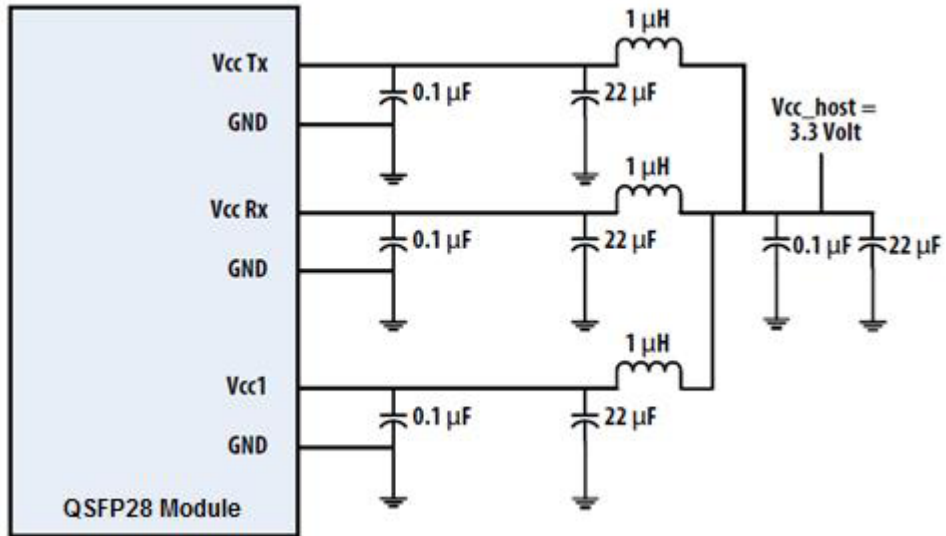

Figure 3. Recommended Power Supply Filter
2. VccRx, Vcc1 and VccTx are the receiving and transmission power suppliers and shall be applied concurrently. Recommended host board power supply filtering is shown in Figure 3 below. Vcc Rx, Vcc1 and Vcc Tx may be internally connected within the QSFP28 transceiver module in any combination.